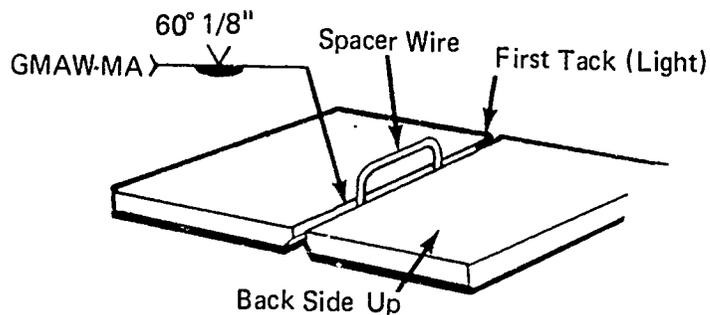

FIGURE 3
- E. Position material to form a butt joint and tack weld (Figure 3)